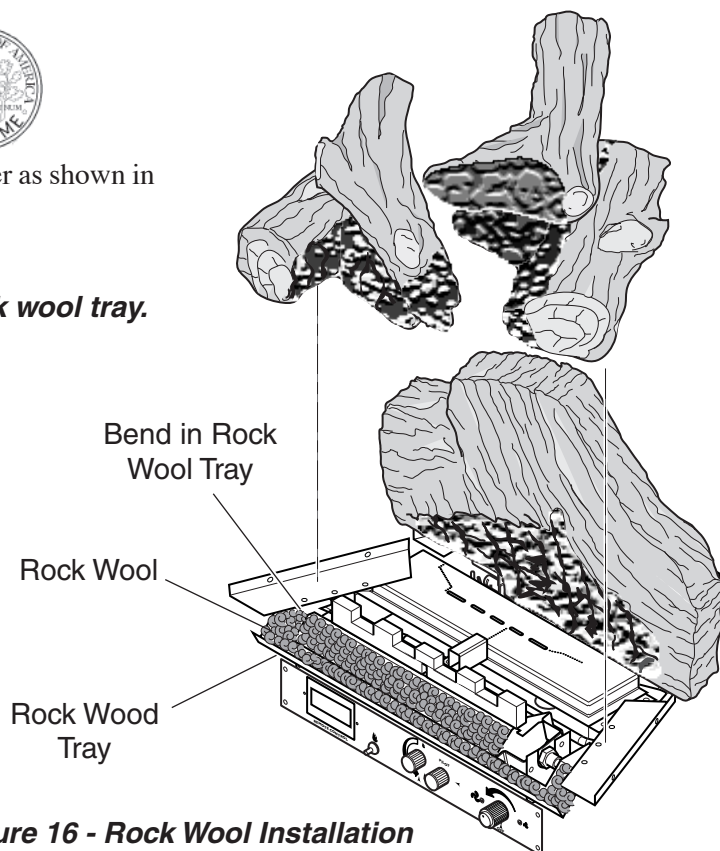

Figure 16 - Rock Wool Installation
2. Place rock evenly across rock wool tray and front burner as shown in Figure 16.